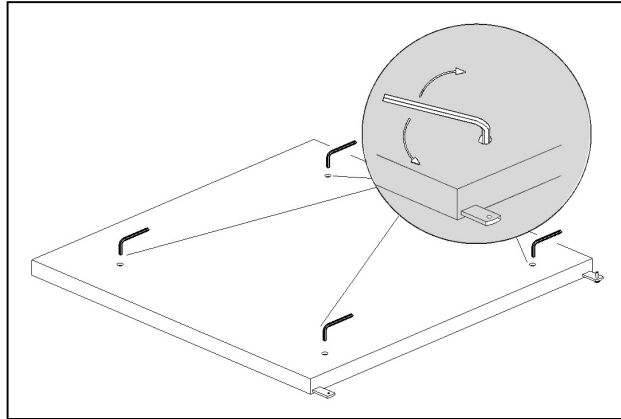

Fig. 2
- Put the **panel of the bottom** on the floor and level it (Fig.2);